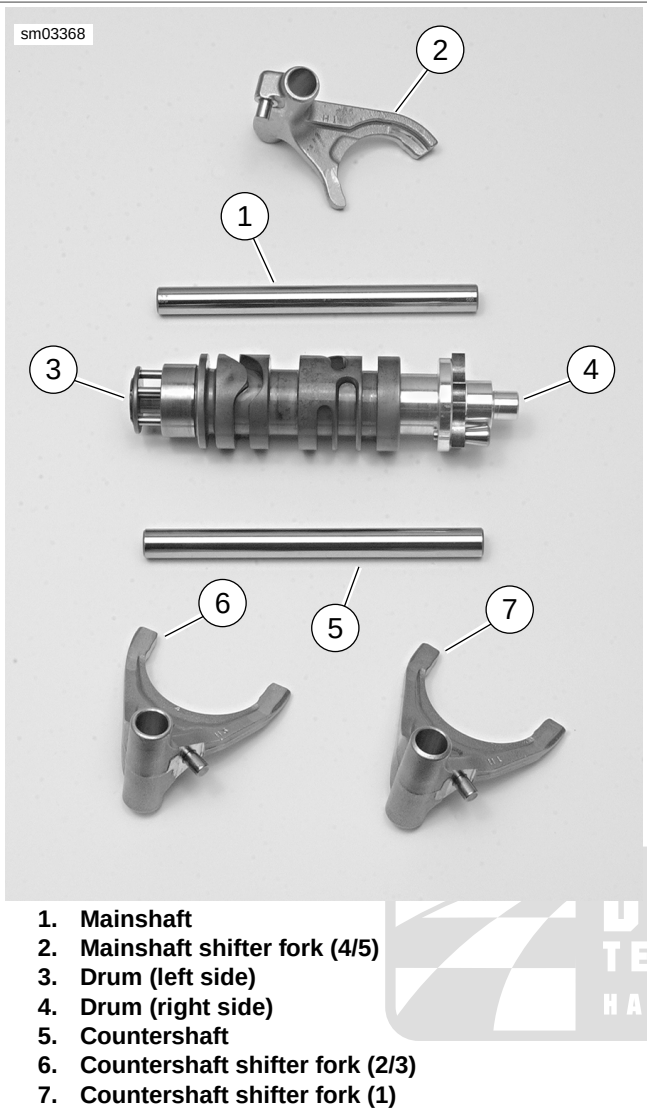

Figure 5-97. Shifter Forks, Drum and Shafts
- See Figure 5-97. Shifter design allows for one common part number for both countershaft shifter forks. As the transmission runs, each shifter fork develops a certain wear pattern with its mating parts. For this reason, it is important that each shifter fork be reinstalled in its original location.